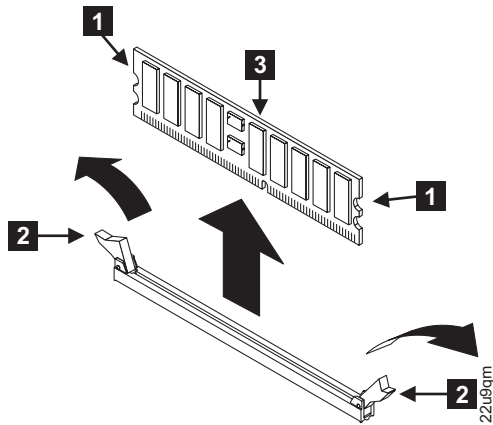

Figure 97. Removing the memory modules
6. Open the clips **2** by pressing them outward, as shown in Figure 97 on page 109. This action pulls the memory module **3** out of the connector.